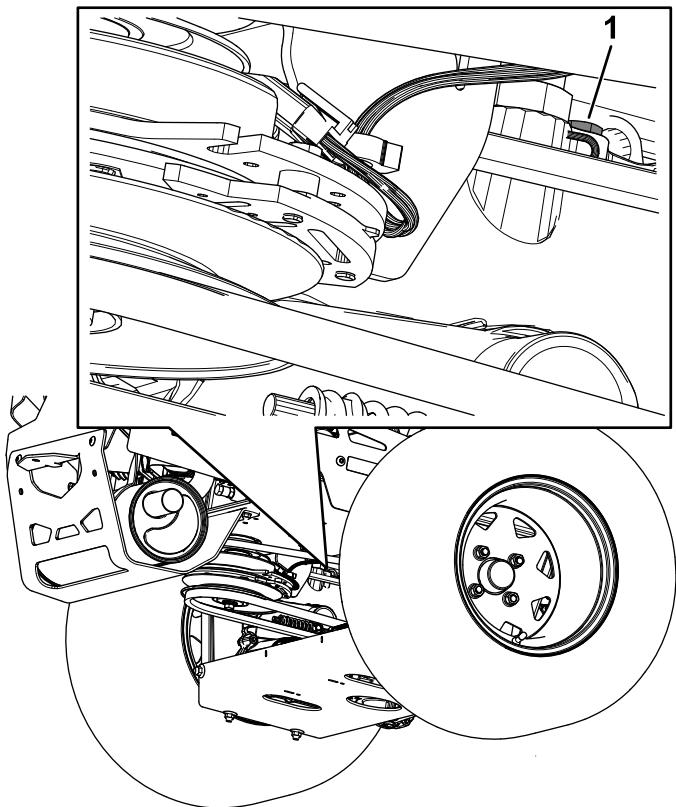

Figure 83
- For ZT 5400 Hydros, use a 7/16-inch wrench to access the vent plug from underneath the machine (Figure 83).